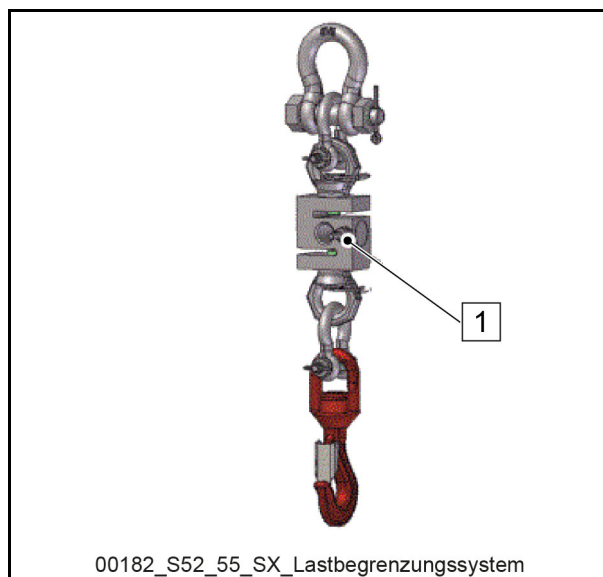

Fig. 493 Load limitation system
The placing boom is not a lifting gear and must not be used as a lifting gear. Loading stowing boxes and cassettes is only permitted with a lifting device with load limitation system (**Fig. 493**)!
Caption (Fig. 493)
A force sensor (1) (**Fig. 493**) is used for the load limitation system in the lifting device. The software of the VECTOR control blocks further lifting of the placing boom when exceeding the max. permissible load.
If the force sensor (1) (**Fig. 493**) and thus the electrical connection to the SCHWING control system is disassembled or damaged, operation of the machine is only possible after acknowledging the safety shutdown, see “**Operating modes with lifting device**” on page 695.